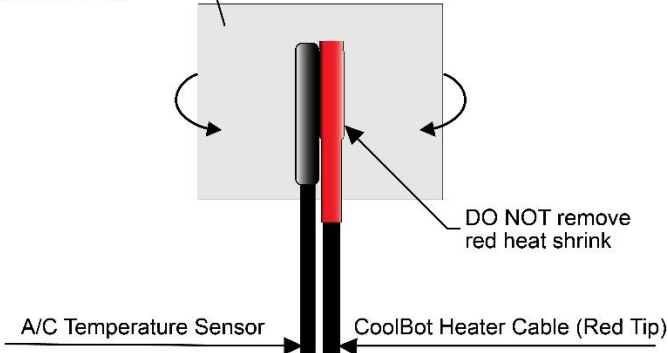

FIG. 2
- Using ONLY a 2" square piece of Aluminum foil, place the CoolBot **HEATER Cable (red tip)** next to the A/C's Temperature Sensor (from step 4). Keep together next to each other, pointing in the same direction, and wrap them tightly with the foil (FIG 2-page 8).